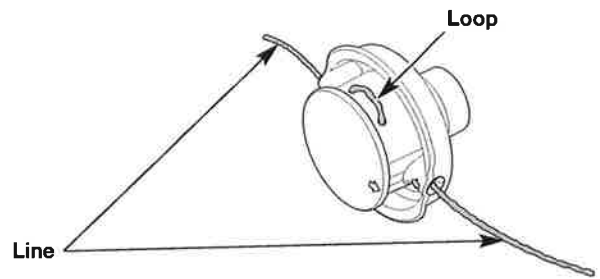

Fig. 16
4. Pull the ends of the line until the line is tight against the cutting head. Make sure the ends of the line are of equal length (Fig. 16). If one end is longer than the other, push the longer end back through the cutting head partway and pull the shorter end out. If necessary, repeat this process until both ends are of equal length.
5. Press the exposed loop of trimming line until it is tight against the cutting head (Fig. 16).